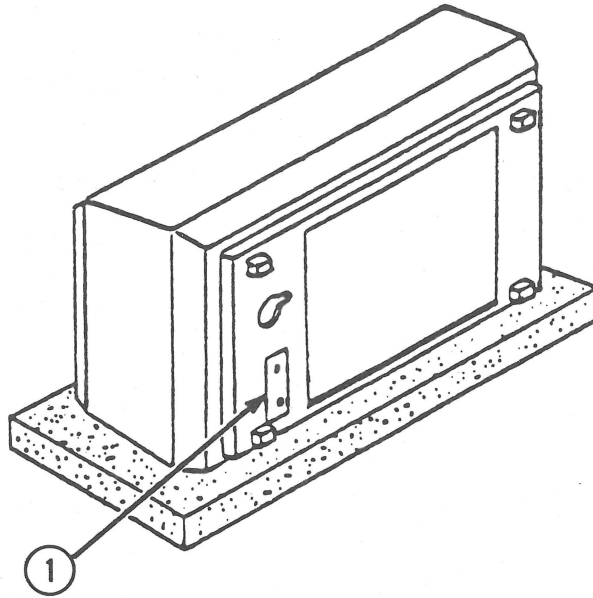

FIGURE 38
1. Make sure the threaded plate (Figure 38, #1) under the bottom of the printer is in position.